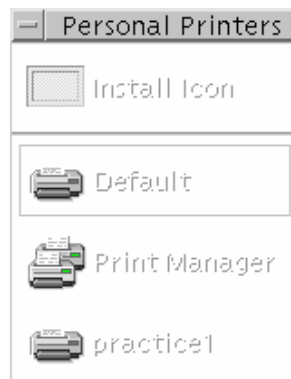

Figure 10. Printer Menu
STEP 1: **Open the Printer menu.** Click the ^a symbol above the Printer icon on the Front Panel. The Printer menu opens (Figure 10). Note the specified printer at the bottom of the menu.
STEP 3: **Select a printer to be the specified printer.** Highlight and drag the printer you want to be the specified printer to the Install Icon option on the Printer menu and drop it. A printer icon, along with the name of the printer you've just specified, appears as a new option on the Printer menu (see Figure 10).